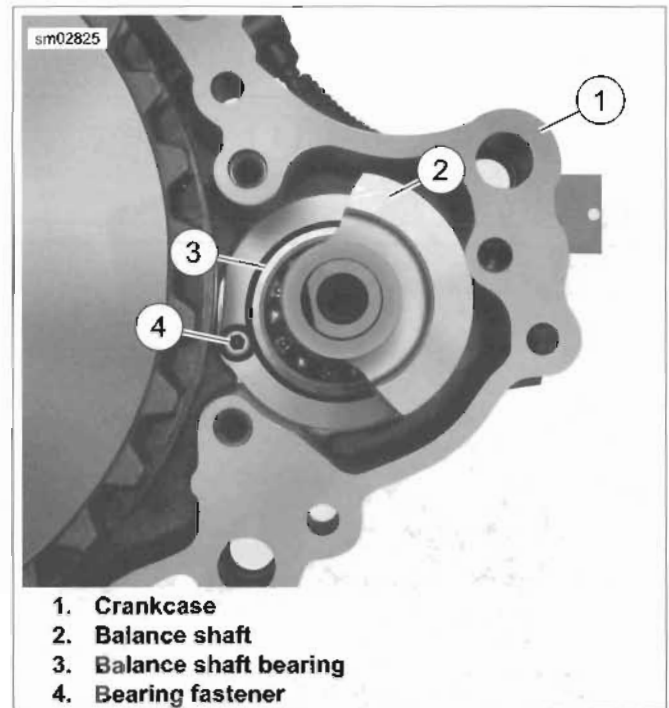

Figure 3-148. Balance Shaft Bearing
1. See Figure 3-148. Remove bearing fastener (4) from crankcase (1).
- See Figure 3-148. Install **new** bearing fastener (4). Tighten to 40-70 **in-lbs** (4.5-7.9 Nm).